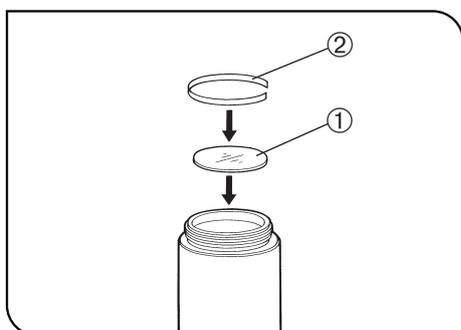

Fig. 40
(Fig. 40)
1. Drop in the ND filter ① into the 10X objective. (Fig. 40)
2. Lock the dropped filter by clamping the outer frame of the ring spring ② provided with the filter. (Fig. 40)